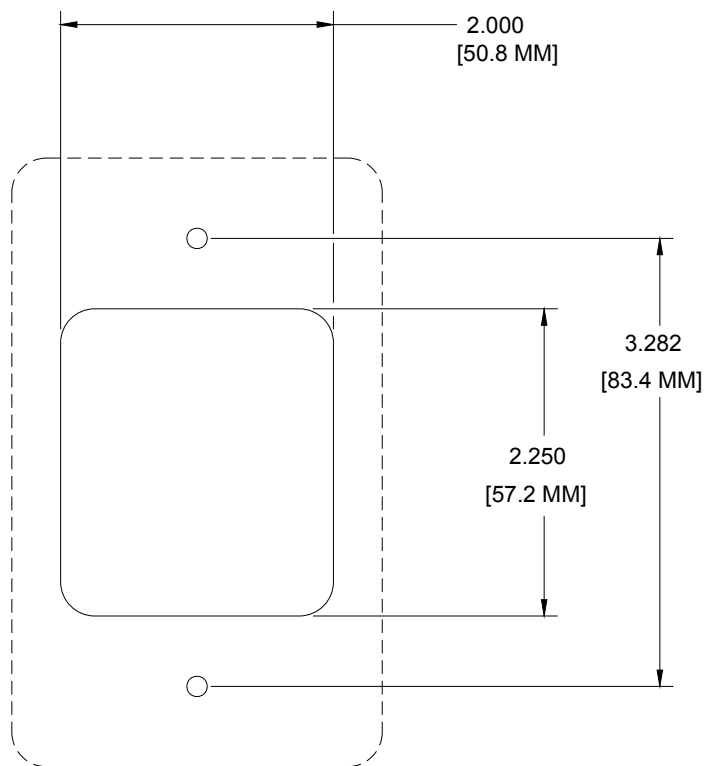
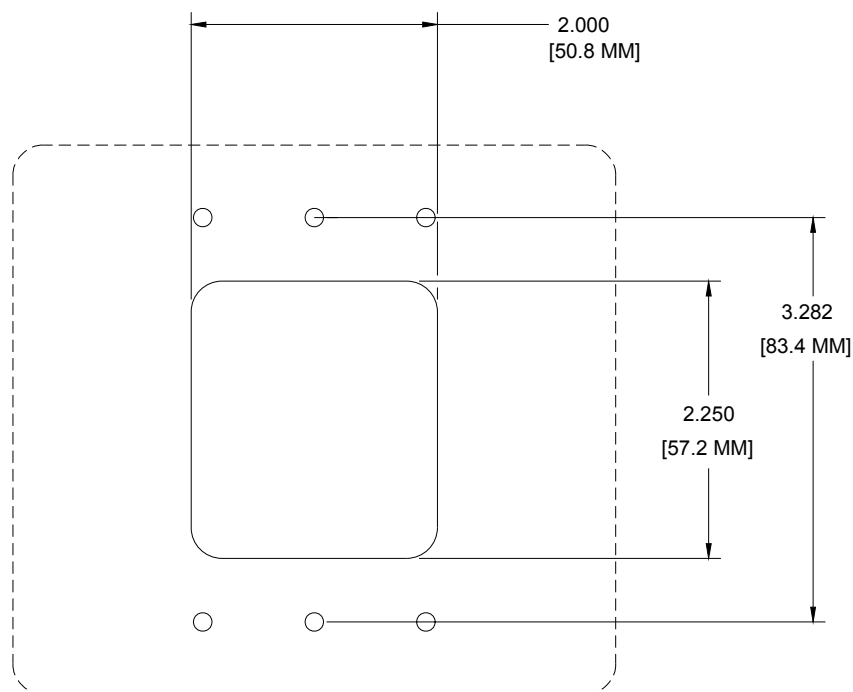

FIG. 8 Mio Modero Single Style mounting dimensions
FIG. 9 Mio Modero Double Style mounting dimensions
FIG. 8 shows the wallbox mounting dimensions for the single and double style Mio Modero. AMX recommends mounting the Mio Modero in a standard one-gang wallbox, a conduit box per NEC specs section 370, with a minimum internal clearance of 2-5/8" x 1-3/4" x 1-5/8" (HWD), but it is possible to mount the Mio Modero to a podium without a wallbox.
1. Use the cutout dimension shown in either FIG. 8 or FIG. 9 to cutout the mounting frame install surface for the Mio Modero.